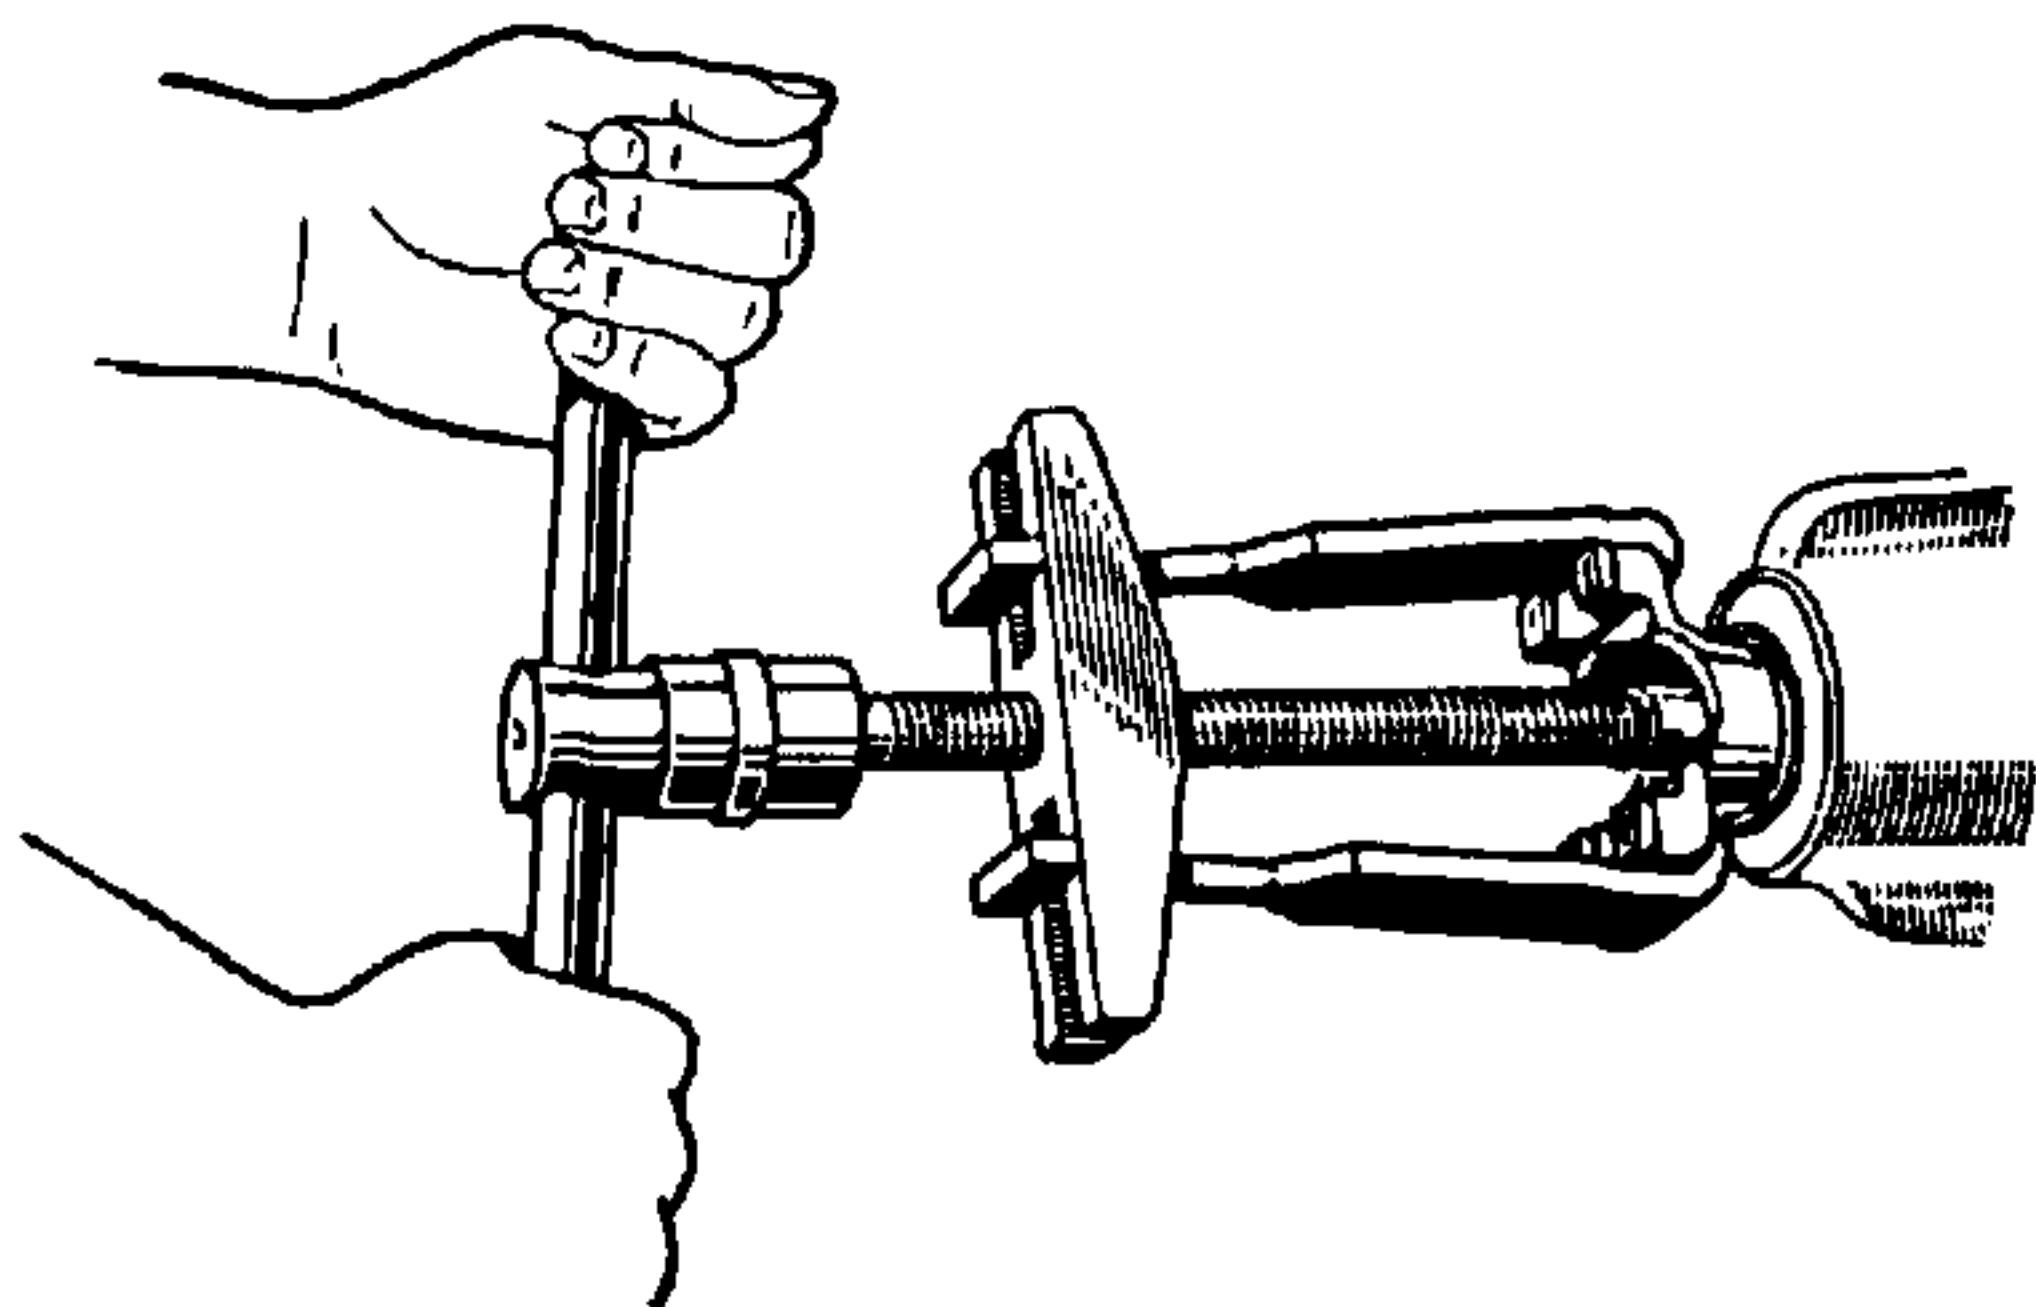

FIG. 4—REMOVING U. J. END YOKE
9. Remove universal joint end yoke assembly No. 59 with puller shown in Fig. 4.